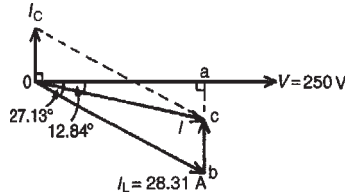

Figure 18.21
- . The phasor diagram is shown in Fig. 18.21.